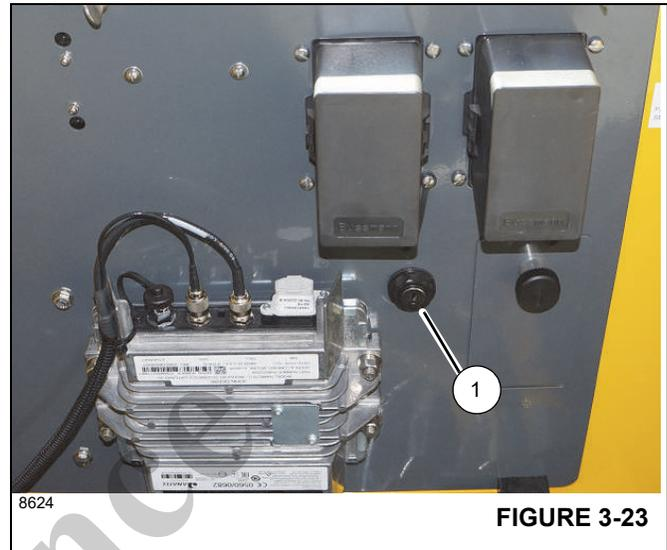

FIGURE 3-23
The Rated Capacity Limiter (RCL) system, when programmed accurately, will lock out the following crane functions—boom up/down, telescope extend, and hoist up—when a lift is attempted at or above the crane's capacity, or when a two-block condition exists. Locking out these functions prevents the overload or two-block condition from worsening. The RCL Bypass Switch or RCL Bridging Mode NonEn Switch (1), (Figure 3-23) is located in the Superstructure behind the seat.
The RCL Bridging Mode NonEn Switch (1), (Figure 3-23) is a two-position, momentary switch located behind the operator seat. During maintenance or troubleshooting work, or to recover the crane, turning the switch clockwise bypasses the following limiter systems and their crane function lock outs: